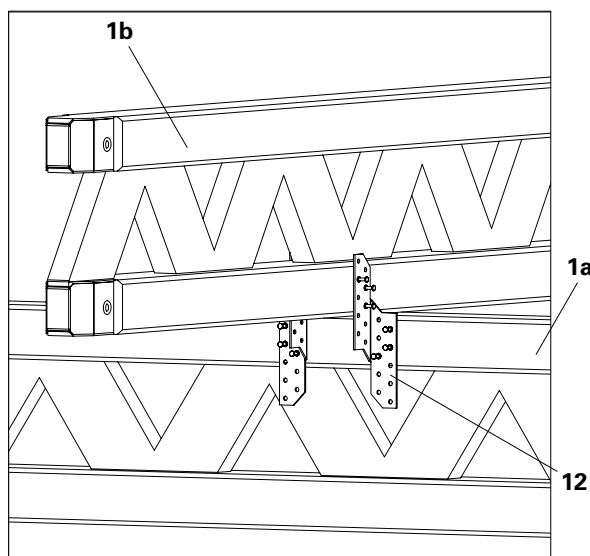
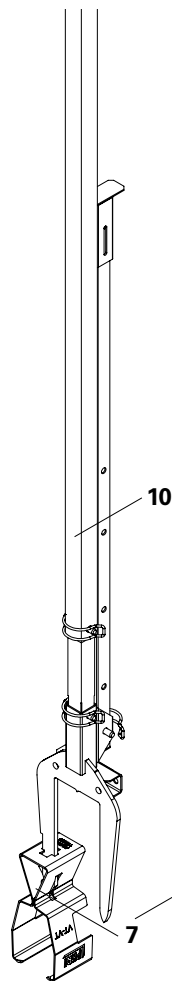

Fig. A4.09
Fig. A4.10
Squared timber connectors (12) can also be used instead of Flexclips (7). Cross girders (1b) and main beams (1a) are secured by nailing them to the squared timber connector (12). (Fig. A4.09)
1. Use the Distance Gauge MF-Plus (10) to spread the Flexclip (7). (Fig. A4.09)
3. Pull the distance gauge downwards out of the Flexclip (7).
4. The Flexclip (7) closes and the cross girder is secured. (Fig. A4.10)